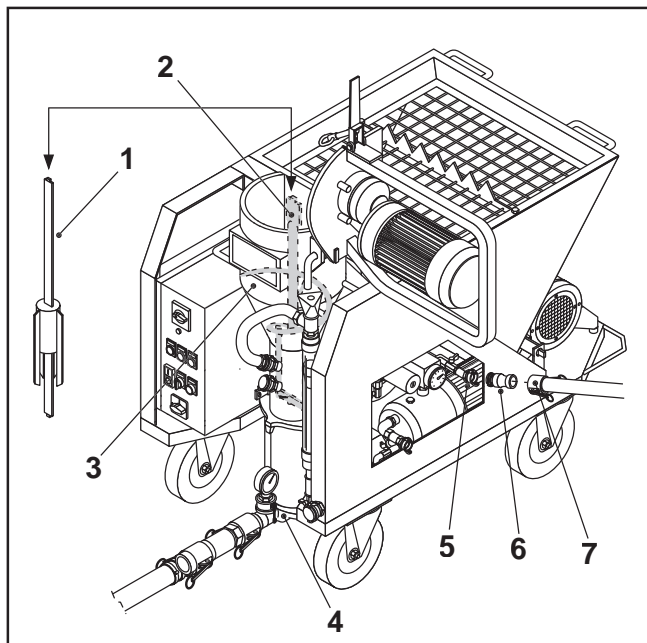
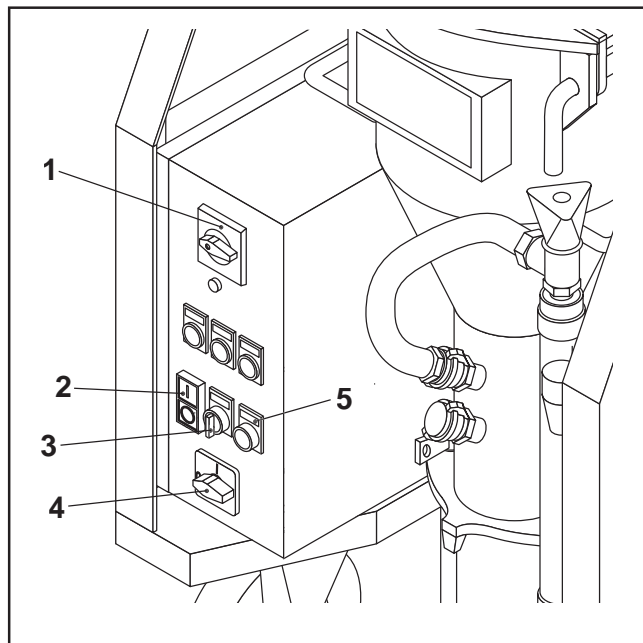

FIG.30
FIG.31
- Re-start GIOTTO using the master switch (FIG.31-REF.1).
- If the pressure is not sufficient to wash the pipes, turn the water pump on - switch (FIG.31-REF.3).
- Clean the flow flange carefully (FIG.30-REF.4) eliminating any deposits that could jeopardise correct functioning.
- Disconnect the machine power supply positioning the master switch (FIG.31-REF.1) in position 0 (zero).
- Open the mixer unit (FIG.30-REF.3).
- Remove the mixer (FIG.30-REF.2) and wash it.
- Insert the scraper (FIG.30-REF.1) at the mixer, close the mixing unit and with the dispenser at a standstill, start the pump by activating the button (FIG.31-REF.1) until clean water escapes.
- Remove the scraper (FIG.30-REF.1) and clean the inside of the mixer unit (FIG.30-REF.3) using a cloth.
- Position the switch (FIG.31-REF.1) in position 0 (zero).
- Disconnect the water pump by activating the switch (FIG.31-REF.3).
- Start the machine for a couple of minutes by pressing the water supplement button (FIG.31-REF.5) until no more water is seen in the flow meter.
Before carrying out this operation, stop the material pump by activating the switch (FIG.31-REF.1) and then disconnect the power supply socket.